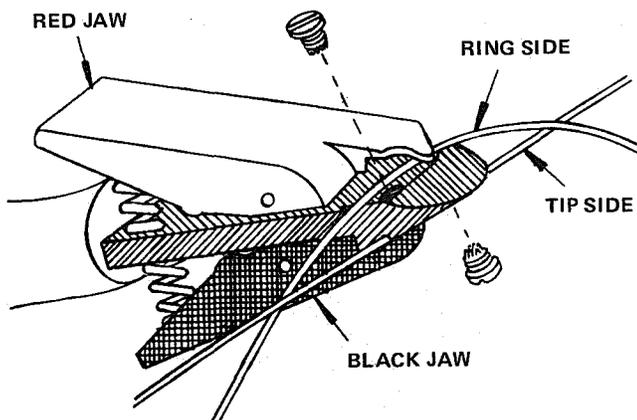

Fig. 2
2.02 The two cords are terminated in red and white banana plugs. Mating red and white jacks are provided on the panel. The other end of each cord is terminated in a cable clip intended to be attached to the cable pairs. These clips are designed to be attached to both tip and ring sides of a pair at the same time and with the same motion. One jaw of each clip is red and the other black to ensure that the clips will be placed on the pairs in proper polarity. (See Fig. 2.)